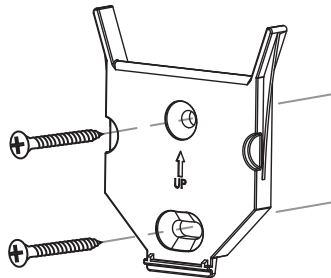

Fig. 2
5. Place the wall plate back against the wall and attach it using the drywall screws (A) provided (see Fig. 2). **Do not over-tighten these screws.** Ensure that the wall plate remains level after both screws are secured.